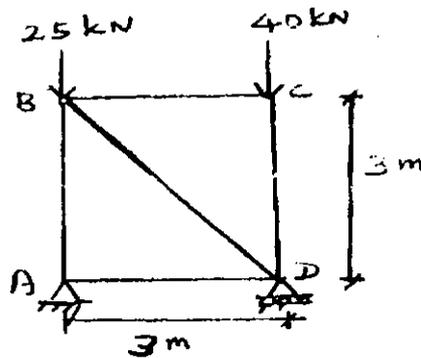

Fig. Q 11.b
- (b) Compute the vertical deflection at joint B of the stress shown in figure Q 11 b. Use unit load method. Assume  $AE = 10^2$  kN for each member.